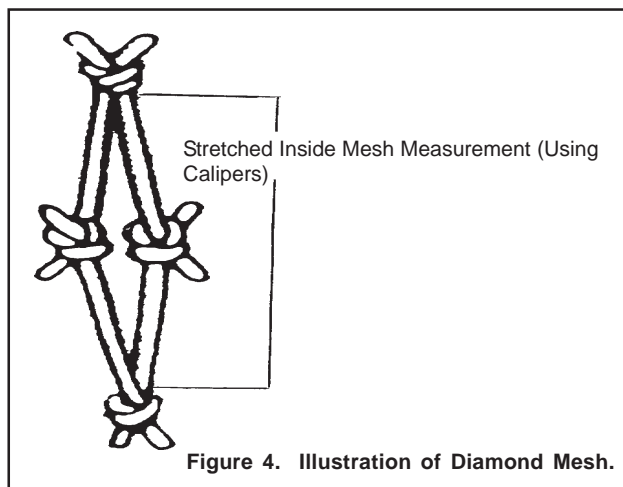

Figure 4. Illustration of Diamond Mesh.
19. FISHING CIRCLE MESH SIZE: Record, to the nearest tenth of an inch, the largest mesh measurement (inside knot to knot) from the fishing circle. This information may be obtained from the Captain. See figure 4.
27. CODEND MESH SIZE: Record, in whole millimeters, ten randomly selected meshes from the codend. These measurements should be stretched inside knot to knot taken in the direction in which the mesh is hung. Use calipers for these measurements. See Figure 4 and Appendix P. Vernier Caliper Instructions for further information.
29. LINER MESH SIZE: Record, in whole millimeters, four randomly selected meshes from the liner in the codend. These measurements should be stretched inside knot to knot taken in the direction in which the mesh is hung. Use calipers for this measurement. See Figure 4 and Appendix P. Vernier Caliper Instructions for further information.